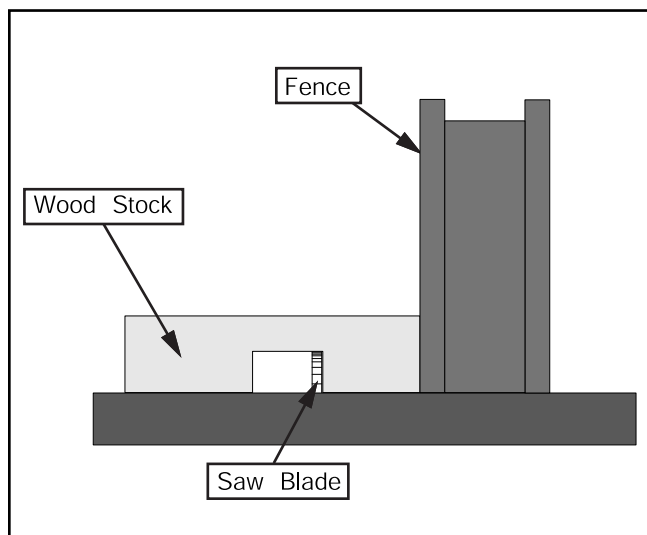

Figure 57B. Single-blade dado cut.
3. If the dado runs the length of the material, adjust the fence so the blade is aligned with the inside of your dado channel as shown in **Figure 57B**.